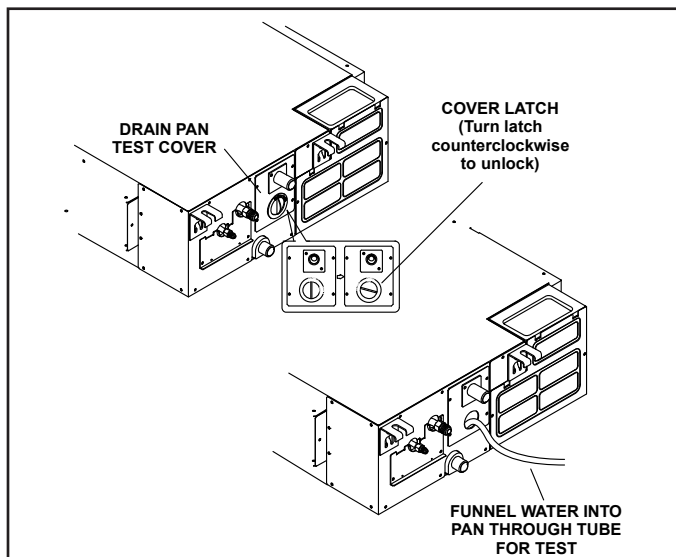

Figure 20. Condensate Drain Test
7. After system installation is complete, the condensate drain line must be checked for leaks and the condensate pumps must be checked to ensure proper operation. This check is part of the commissioning sequence. Turn the condensate drain pan test cover latch counterclockwise to open the cover and access the drain pan. See Figure 20. Funnel enough water to engage the pump into the drain pan through a flexible tube.